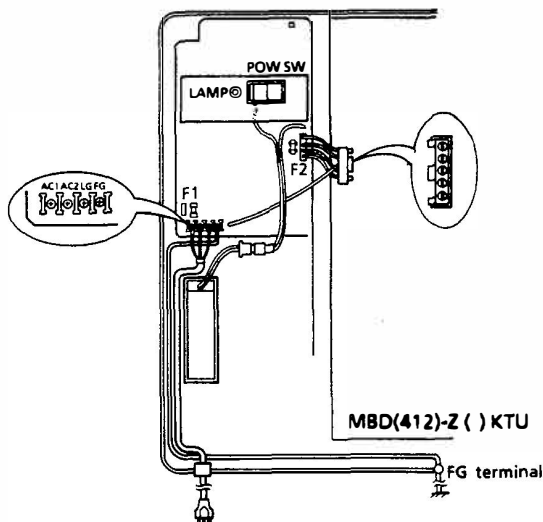

Figure 200-54 PSZ-8-1 Connections
- The connector from the PSZ-8-1 unit to the battery is not connected at the time of shipment. Figure 200-54 PSZ-8-1 Connections shows the location for these connections.